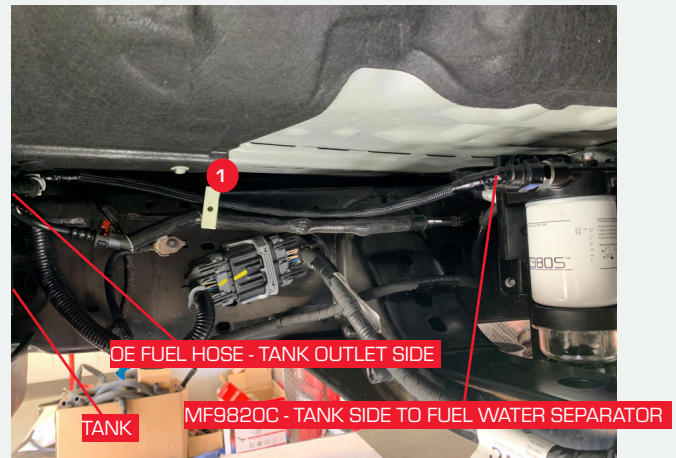

FIGURE 8A
- 8 Connect the supplied MF9820C fuel hose (135 degree QC side end) to the inlet port fitting of the Z980SK16 and connect the other end (90 degree female side end) to the factory tank outlet port and secure with the locker on. See FIG. 8A , 8B & 8C for fuel hose routing.